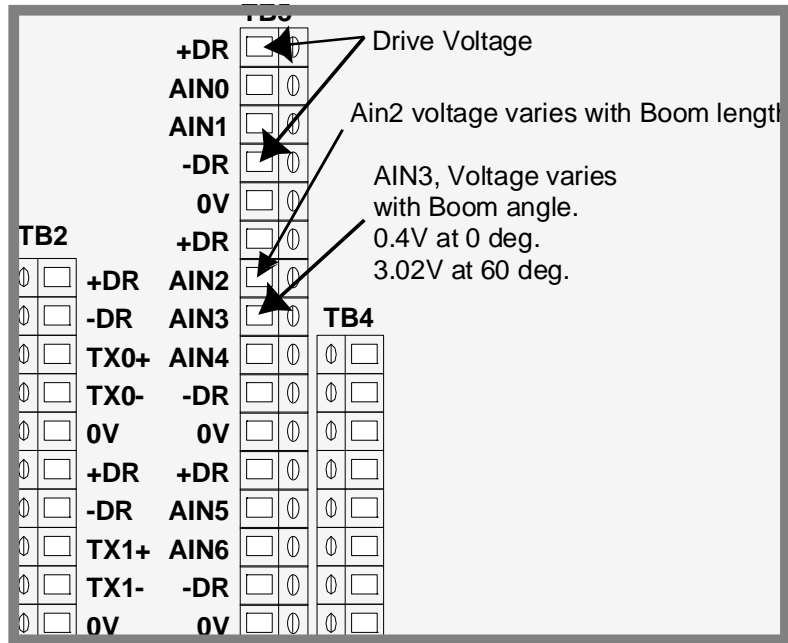

FIGURE 4.12 TERMINATION BOARD
2. Access the Termination Board (see Figure 4.12). Measure the Analog Sensor Drive Voltage. Refer to page 36, Figure 4.4.
2. Access the Termination Board (see Figure 4.12). Measure the Analog Drive Voltage. Refer to page 36, Figure 4.4.